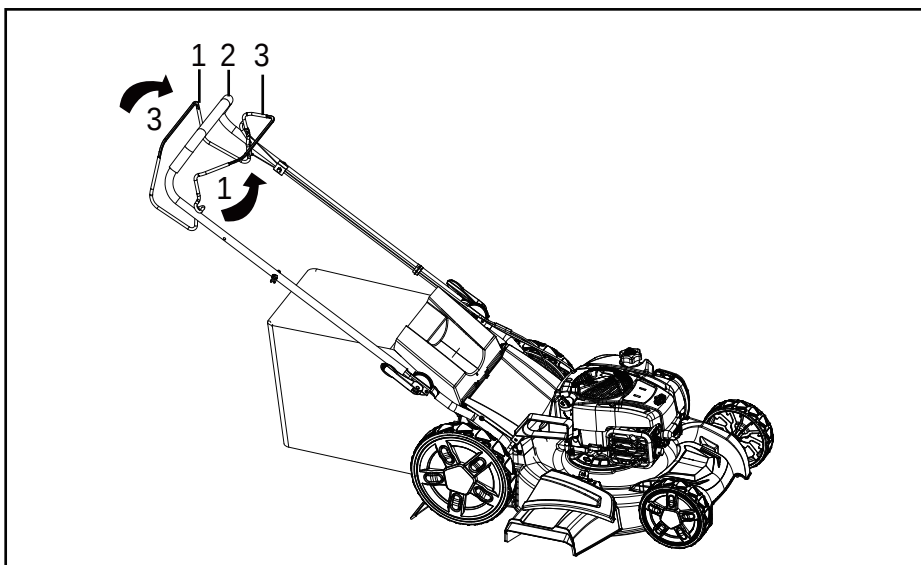

Fig. 19
1. Stand behind the upper handle bar (2).
2. Pull back the brake lever (3) and hold it against the upper handle bar (2) (Fig. 19, step 1).
3. Rest the recoil starter handle (31) onto the hook (25) located on the right hand side of the upper handle bar (2).
4. Pull the recoil starter handle (31) lightly until you feel resistance then pull it rapidly. Do it repeatedly until the engine starts (Fig. 19, step 2).
5. When you are ready to mow, push the self-propelling lever (1) forward and hold it against the upper handle bar (2) (Fig. 19, step 3). The product starts moving forward and begins mowing.